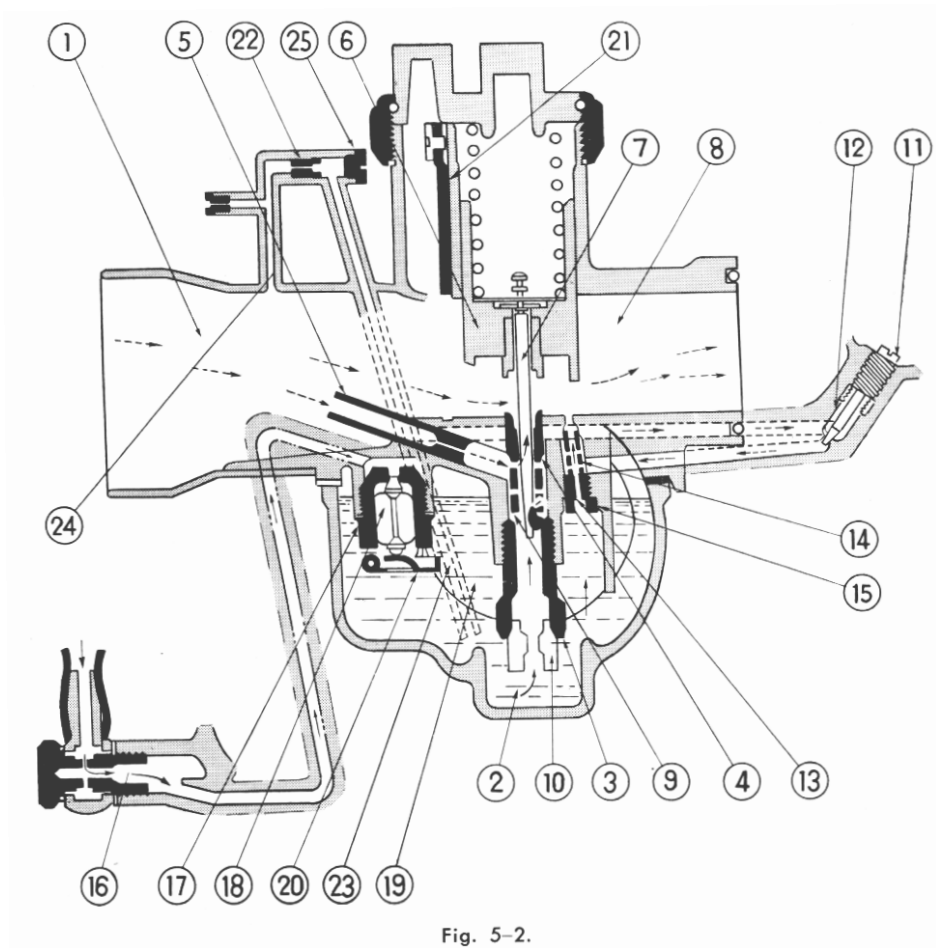

Fig. 5-2.
(5) Choke system
The choke valve (21) must be in a closed position with the choke lever moved upwards, and in a open position with the choke lever moved downward, as shown in Fig. 5-2.